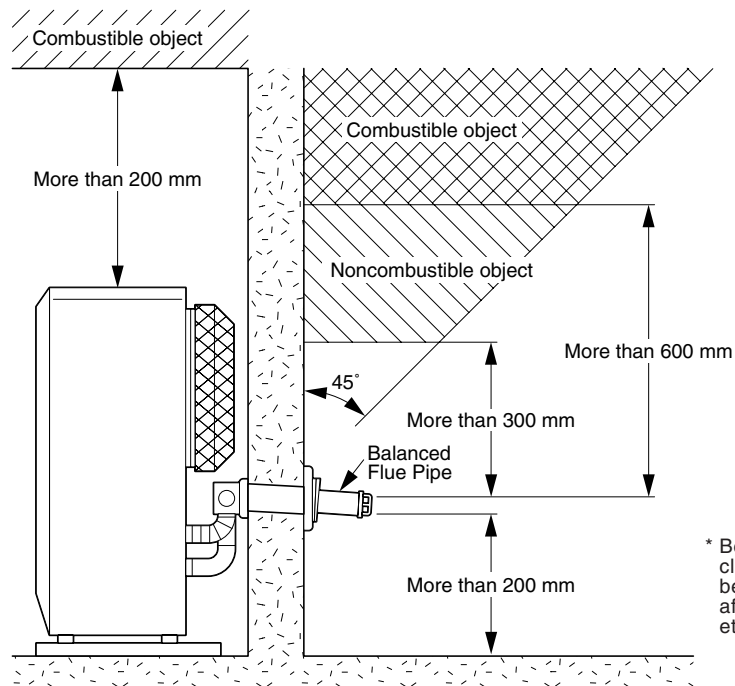

Fig. 2
1. Intake air and exhaust flue pipe openings of the Balanced Flue Pipe must be fully exposed to outside. The Balanced Flue Pipe must not vent into a chimney, garage, basement, under-floor or ceiling cavity, or any enclosed area, or be installed vertically, because the Balanced Flue Pipe is a "Heat Exchanger" which causes condensate to form in the exhaust pipe, and which must drain to outside. (See Fig. 2 Page 24).
2. Ensure the outdoor flue discharge area is clear of anything that might be affected by the hot flue exhaust gas. (See Fig. 2 and 3)
The Balanced Flue Pipe (as in Fig. 2), is for wall thickness from 130 mm to 320 mm.